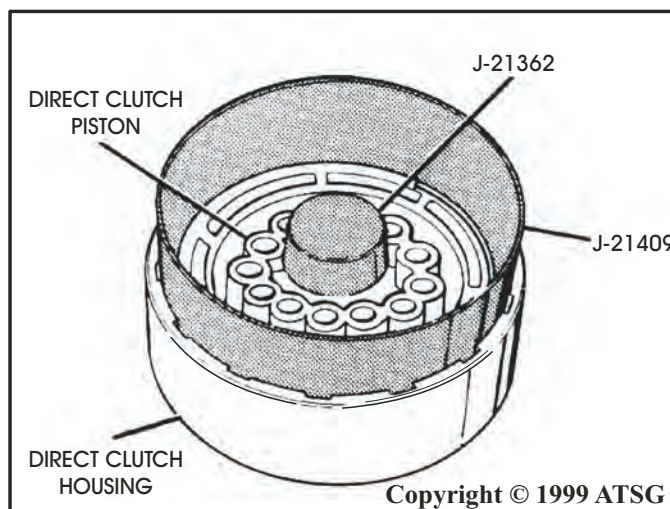

Figure 78
10. Install inner lip seal protector J-21362 on the hub of direct drum (See Figure 78).
11. Install outer lip seal protector J-21409 into the direct drum as shown in Figure 78.
12. Install the direct clutch piston assembly into the direct clutch housing using a twisting motion as shown in Figure 78.